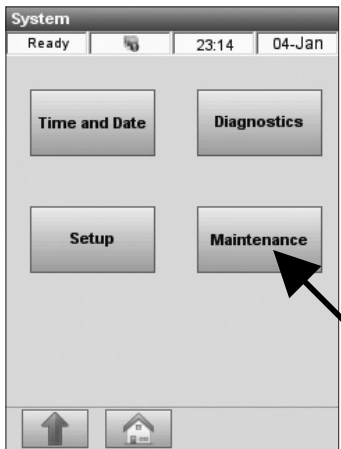

Fig. 3-97 Select Maintenance
1. From the **<Ready>** display, select **<System Manager>** and **<Maintenance>** (Fig. 3-97).